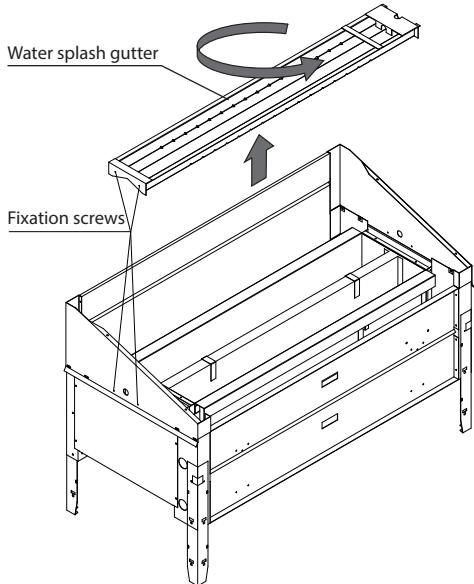

Fig. 5
- Notice:** If necessary also turn the gutter around, so that it declines away from the funnel connection (see § 6, Fig. 5).
- Unscrew 4 screws on both sides (Fig. 5).